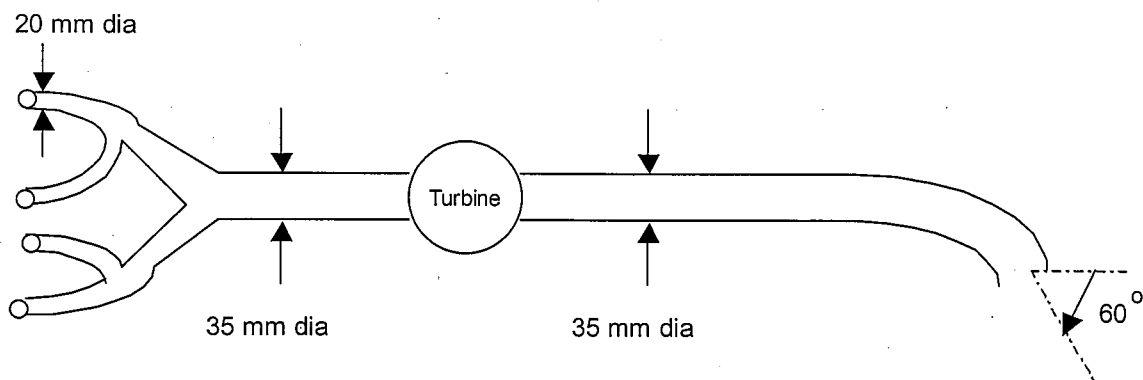

Figure Q3
3. Each cylinder of a 4-cylinder turbo-charged IC engine discharges into a pipe of diameter 20 mm at an average pressure of 1.8 bar and an average velocity of 44 m/s. The four separate pipes are joined together in a manifold into a single exhaust pipe of diameter 35 mm. The turbine of the turbo-charger is placed within the uniform exhaust pipe. The exhaust pipe discharges into atmosphere (pressure 1.1 bar) by way of a tailpipe which is bent to deflect the exhaust gas downwards by an angle of 60° , see Figure Q3.